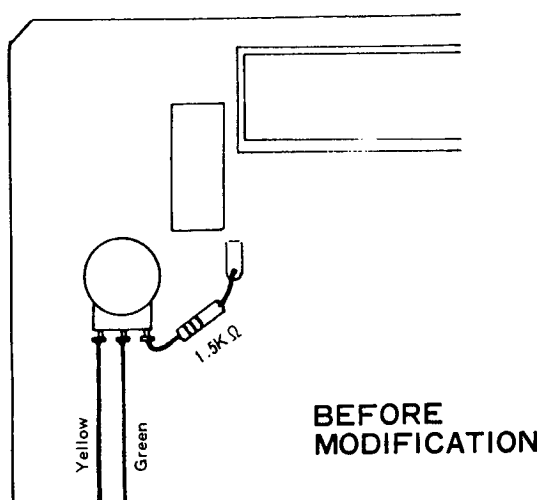

Figure 17.
- (4) Locate the CLARIFIER potentiometer inside the front panel of the case. Refer to Figure 17, and locate the yellow and green wires, as well as the 1.5 K ohm resistor. Rewire the connections as shown in Figure 18 for proper CLARIFIER operation. Modification is now complete.